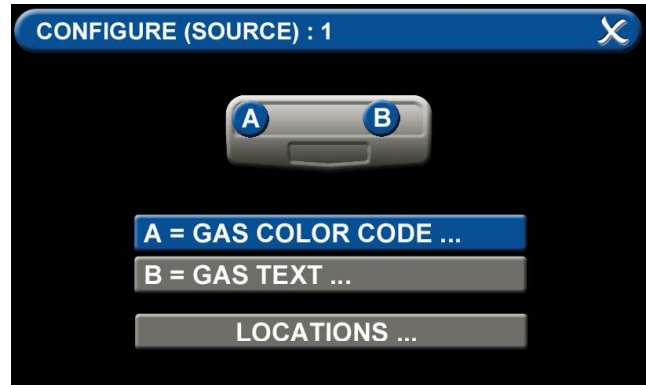

Figure 84: Configuration Source Screen
1. Touch the A = GAS COLOR CODE tab (Figure 84).
1. Touch the B = [GAS TEXT] tab (Figure 84).
1. Touch the LOCATIONS tab on the configuration screen (Figure 84).